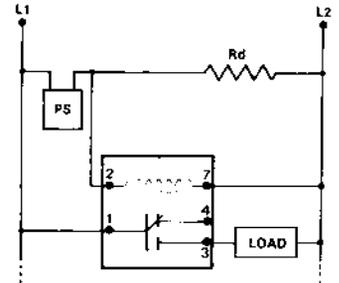

Figure 3
**Pulse Shaping:** (Fig. 3) For pulse shaping applications, the timer coil is wired in series with the PS. Resistor  $R_d$  may be required for proper operation of the PS.